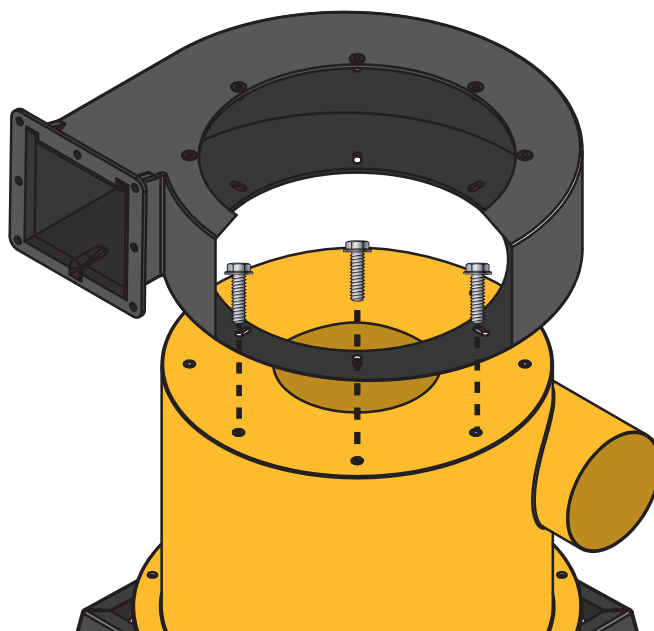

FIG. 5
- 5 Lift the Fan Housing (B) onto the Barrel (C), making sure it is oriented so that the molded “UP” text is visible. Align the housing's holes with the holes in the barrel and keep in mind the direction you want your outlet to face. [FIG 5].